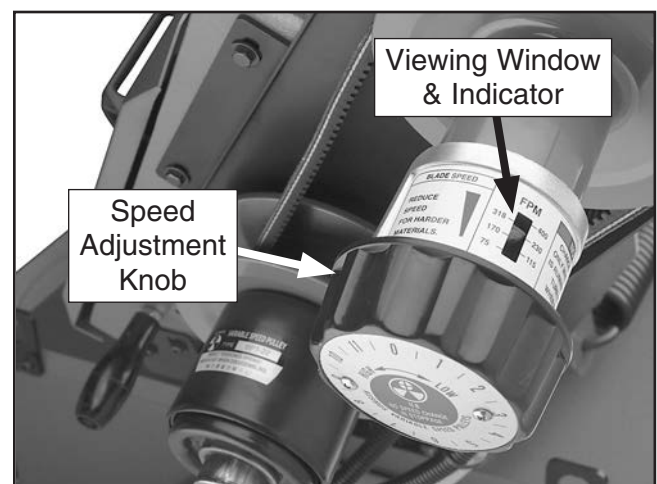

Figure 40. Speed adjustment knob location (belt covers removed for clarity).
2. Rotate speed adjustment knob (see **Figure 40**) clockwise to decrease blade speed and counterclockwise to increase blade speed.
Note: Viewing window and indicator (see **Figure 40**) on side of knob display approximate speed setting.